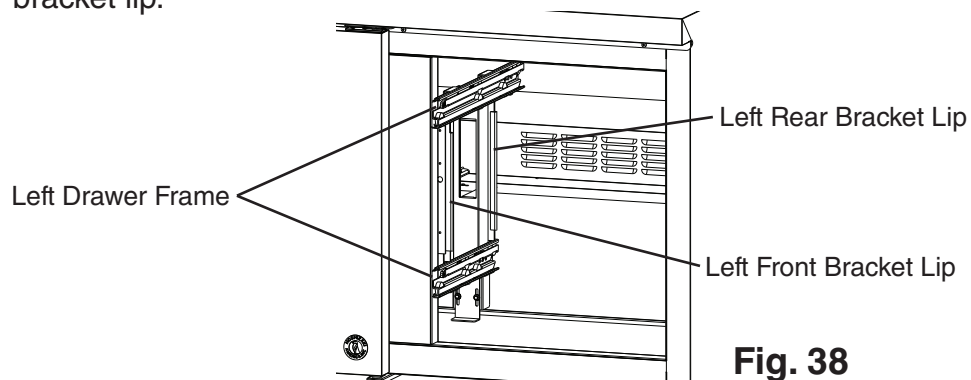

Fig. 38
- 22) Place the left drawer frame in the appliance and align under the left rear bracket and tighten, then align under the left front bracket and tighten. See Fig. 38.